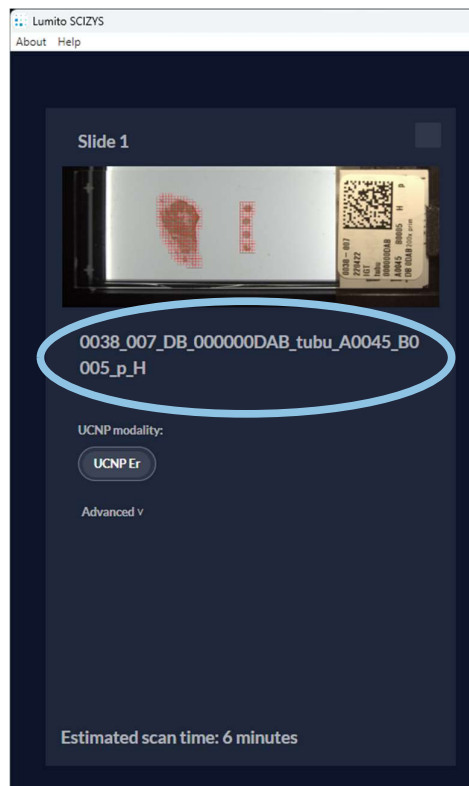

Figure 6-16 Sample Name highlighted.
1. Click on the **file name** (Sample Name) and edit as desired (*Figure 6-16*).